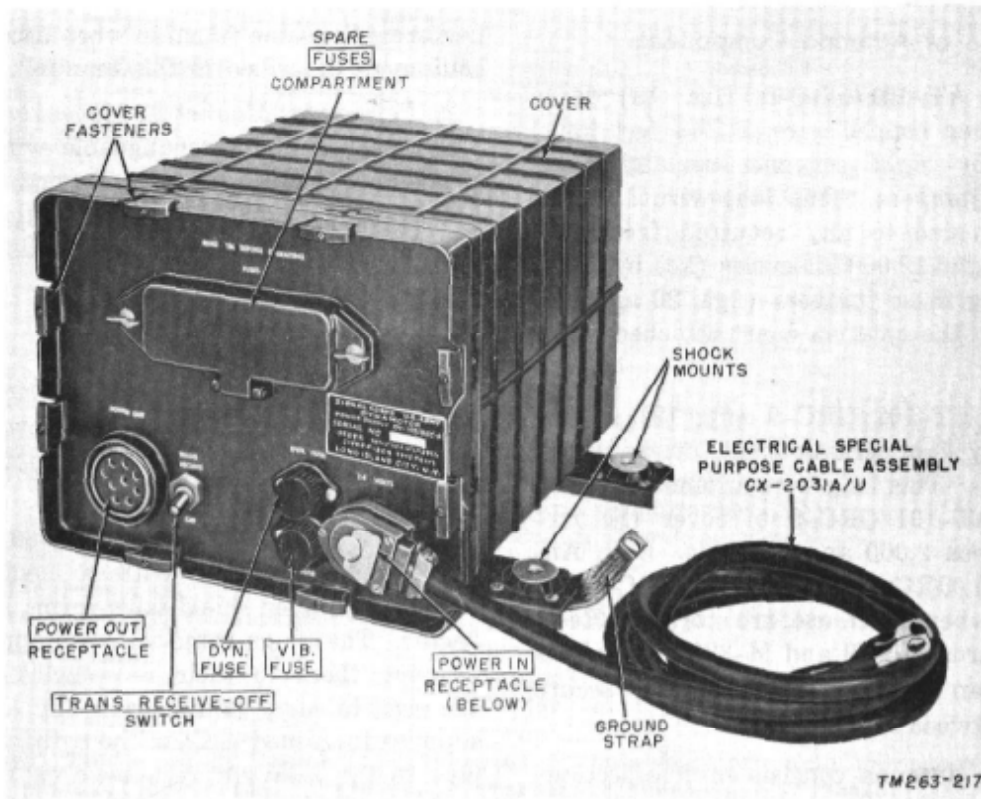

Figure 12. Dynamotor-Power Supply DY-105/GRC-9X.
13. Dynamotor-Power Supply DY-105/GRC-9X (fig. 12)